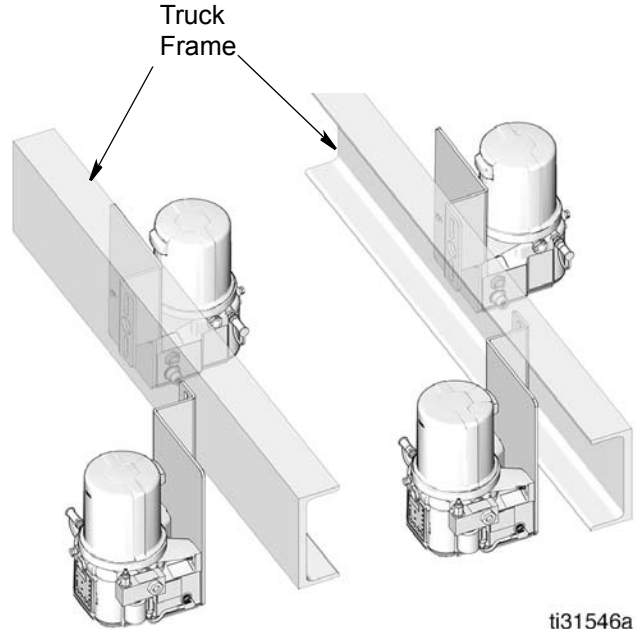

FIG. 8
- Use a mounting bracket to secure the pump directly to either the outside or inside of the lower truck frame as shown in FIG. 8.